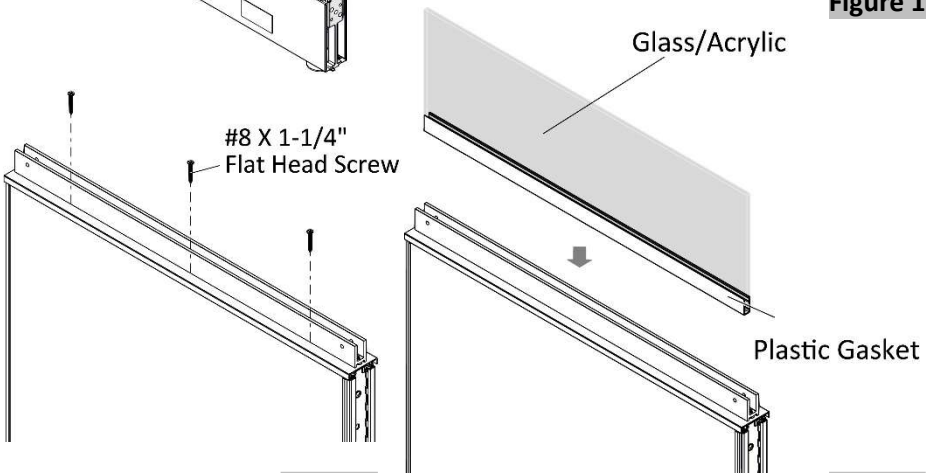

Figure 2
3. Securely fasten base extrusion into the pre-drilled holes of top trim with #8 X 1-1/4", Flat Head Screws, (Figure 2).